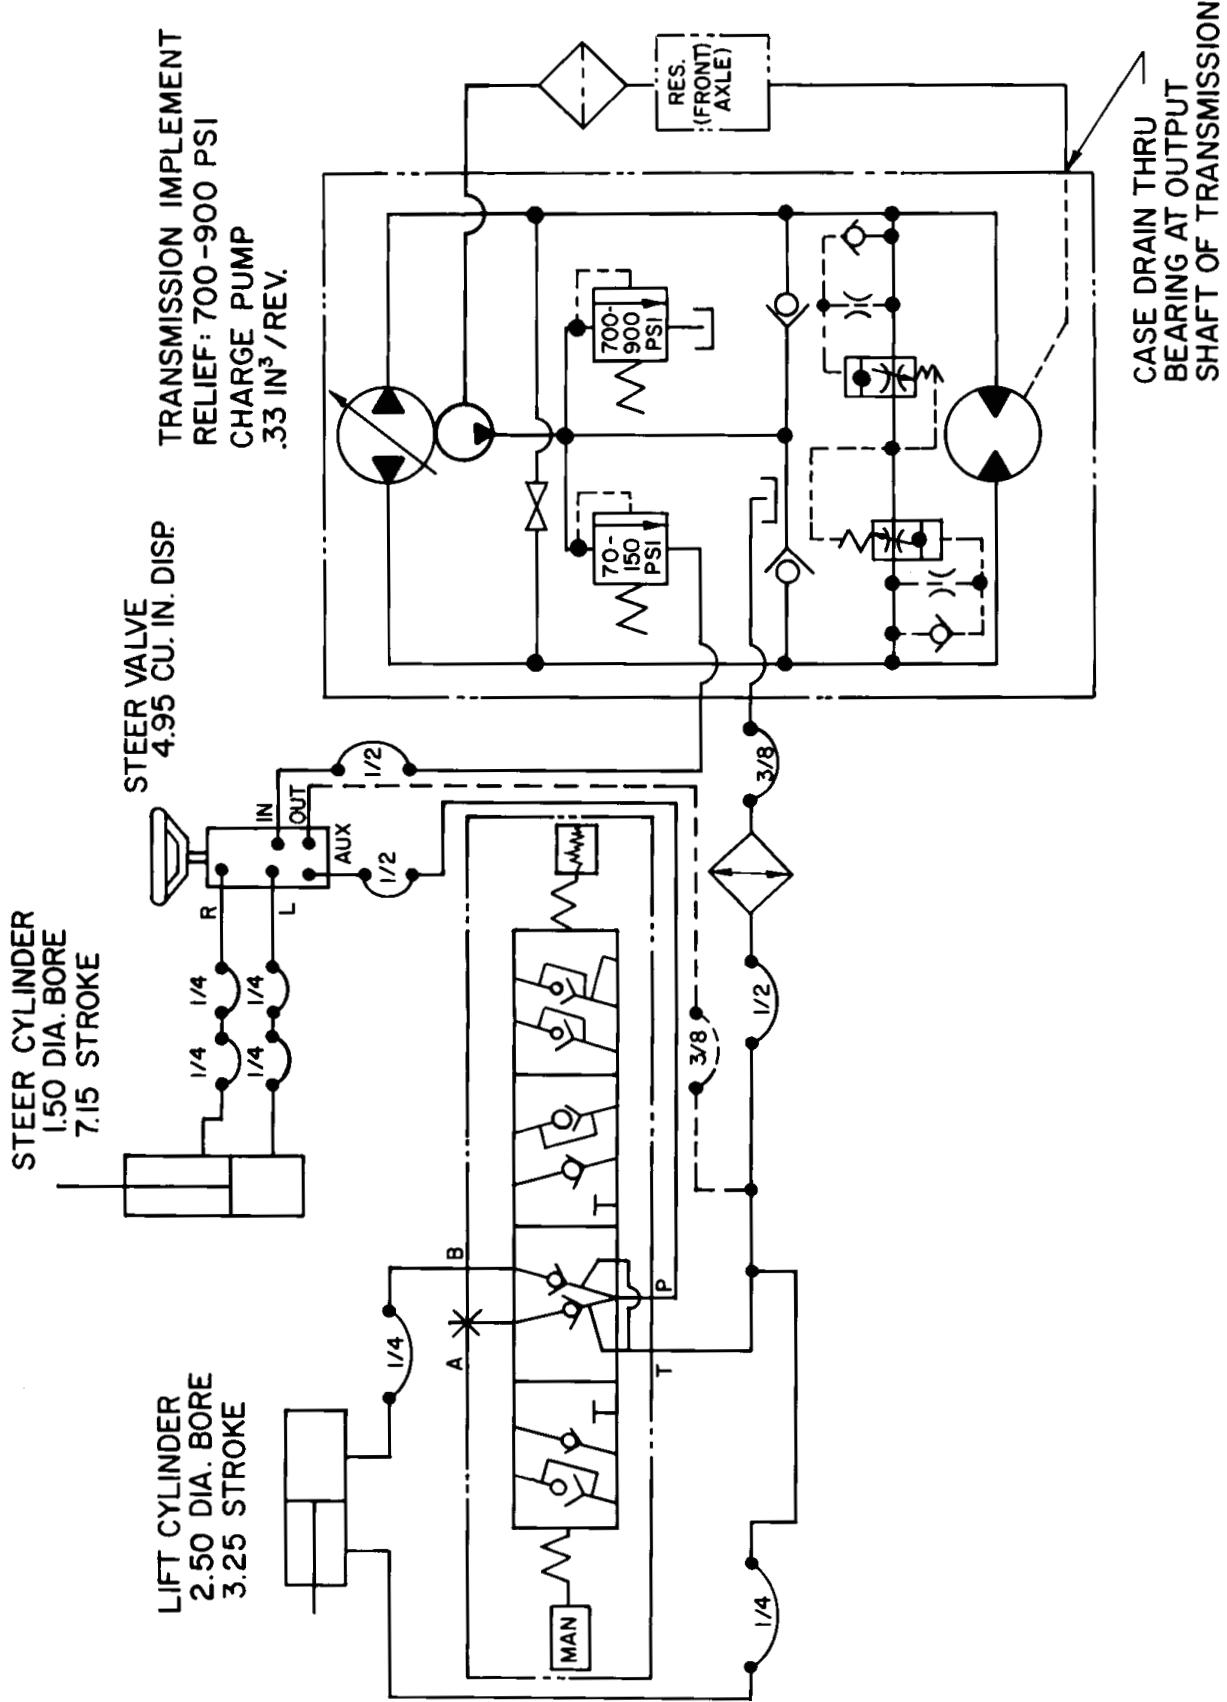

**Figure 54**
7. Remove dipstick from axle filler tube (Fig. 54) and fill axle to proper level with correct type and viscosity oil recommended for expected ambient temperature conditions; refer to table above.
9. Leave machine set for two additional minutes, then remove dipstick and check oil level in axle (Fig. 54). If level is low, add oil until level matches groove in dipstick (Fig. 54). If level is too high, remove drain plug (Fig. 53) and drain oil until oil level matches groove in dipstick.